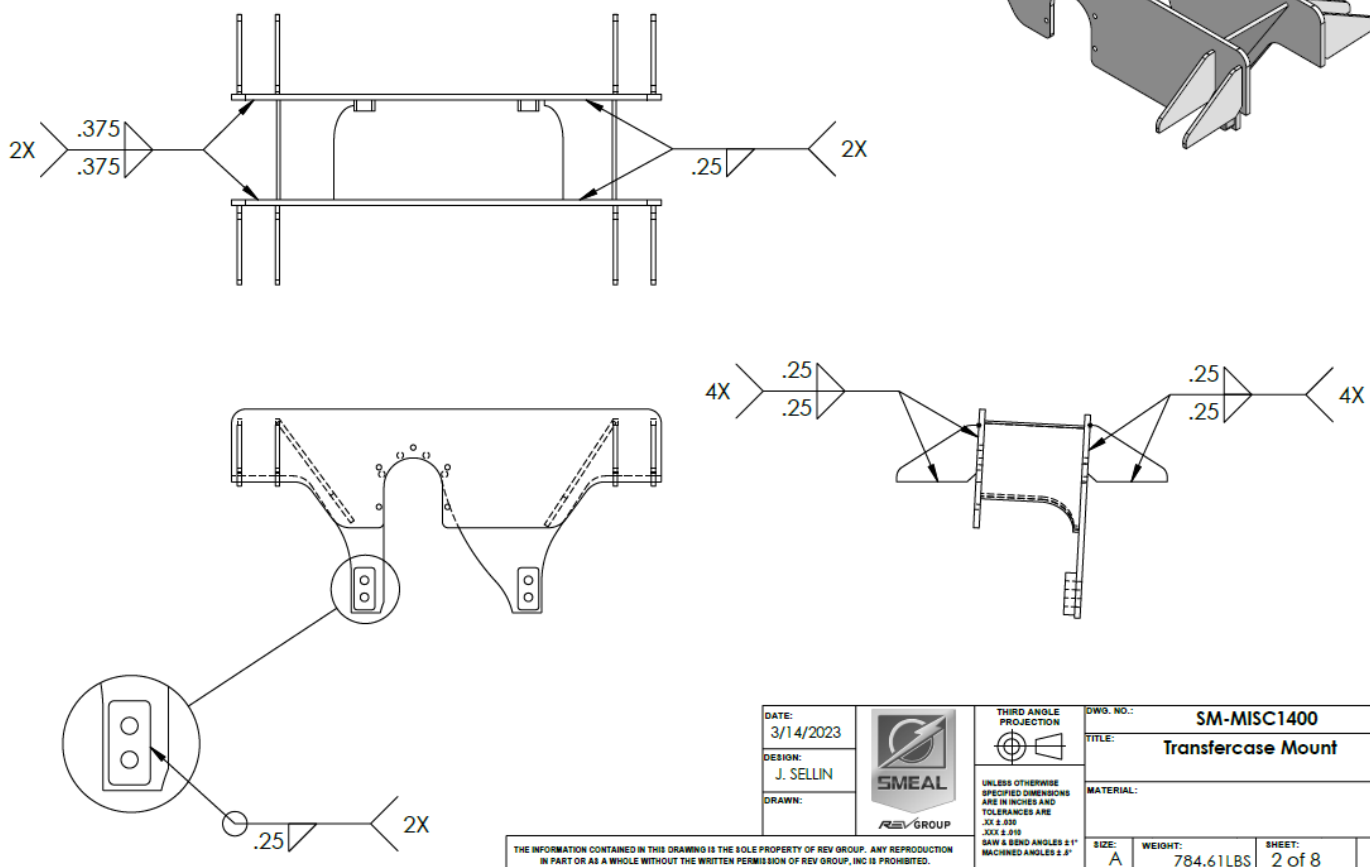

Figure 5.1
10. Weld the forward pump mounts and the four forward-facing gussets in place. Tack all components in place and finish the weld in accordance with *Figure 5.1*